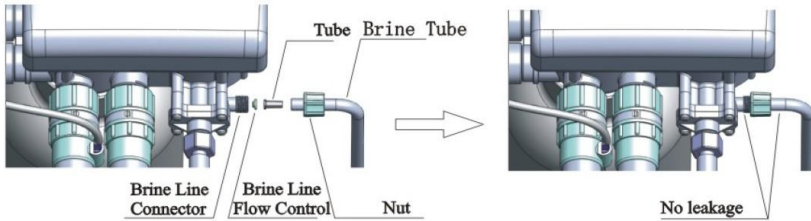

Figure1-5
⑥ Connect brine tube
- a. As Figure1-5 shows, slide 3/8" brine tube hose connector over end of brine tube.